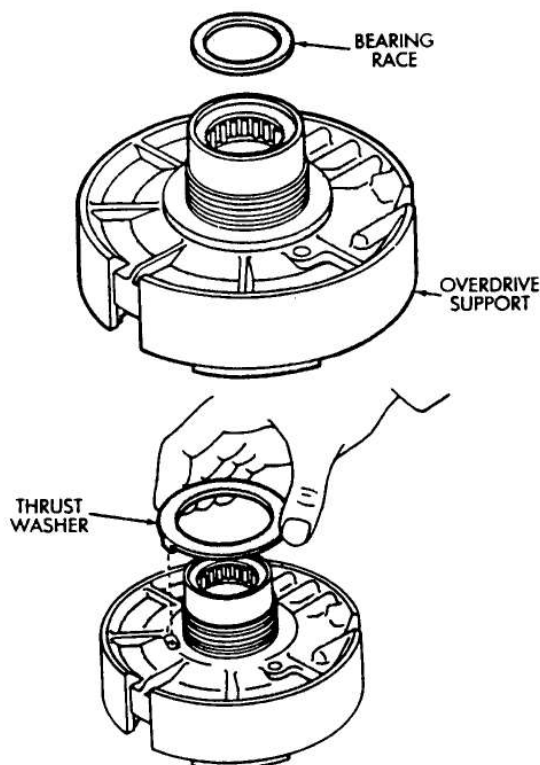

Fig. 4 Removing Clutch Drum Thrust Washer And Race
- (4) Turn overdrive support over and remove bearing race and clutch drum thrust washer (Fig. 4).
(5) Install support bearing race and clutch drum thrust washer (Fig. 4).